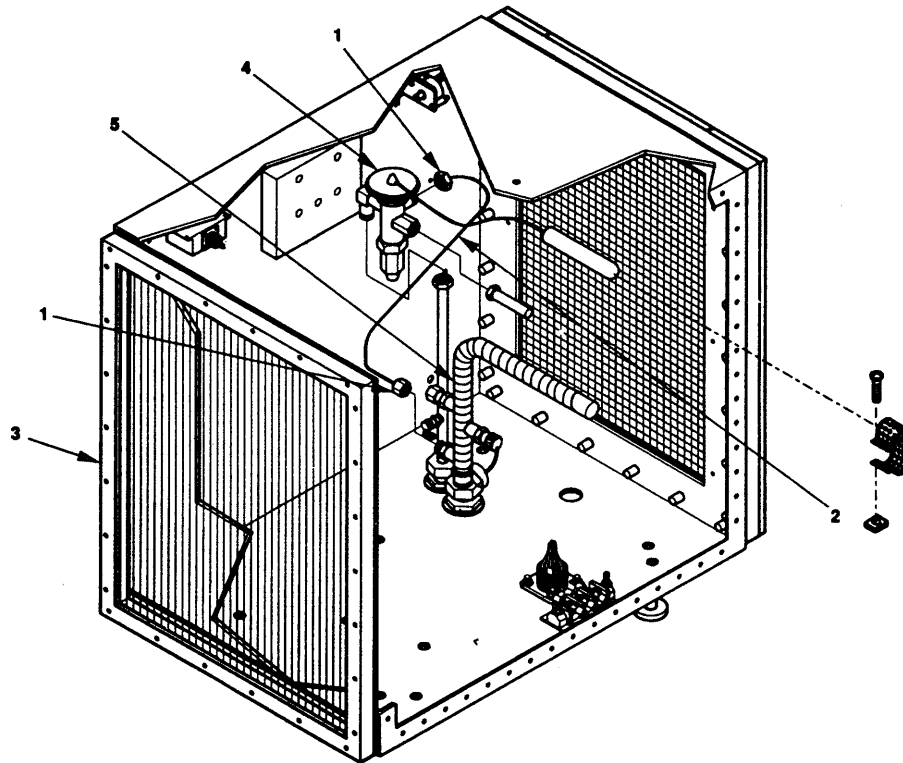

Figure 5-21. Equalizer Line Tube Assembly Maintenance.
- a. **Remove.** Loosen two flare nuts (Figure 5-21, 1) and remove equalizer line tube assembly (2).
- (1) Inspect equalizer line tube assembly (2) for cracks, rooted, bends. damage, or damaged flare nuts.